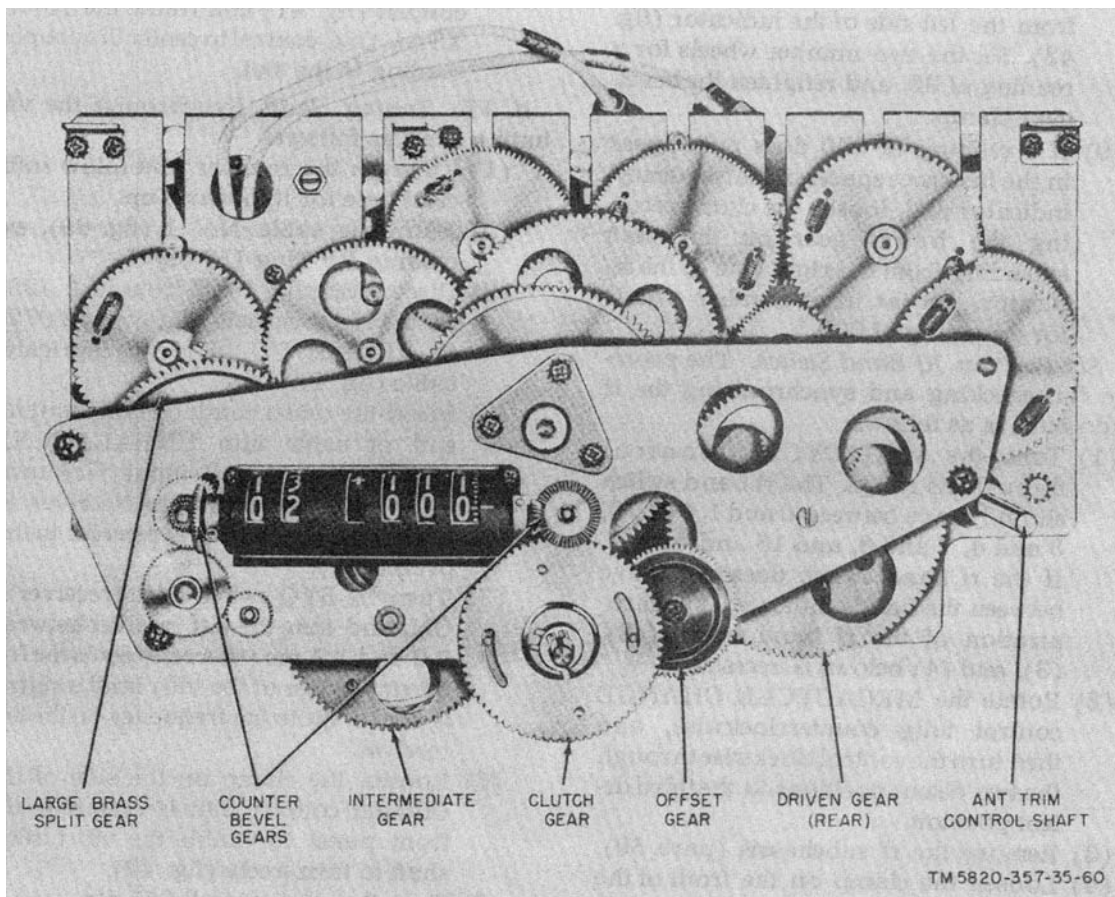
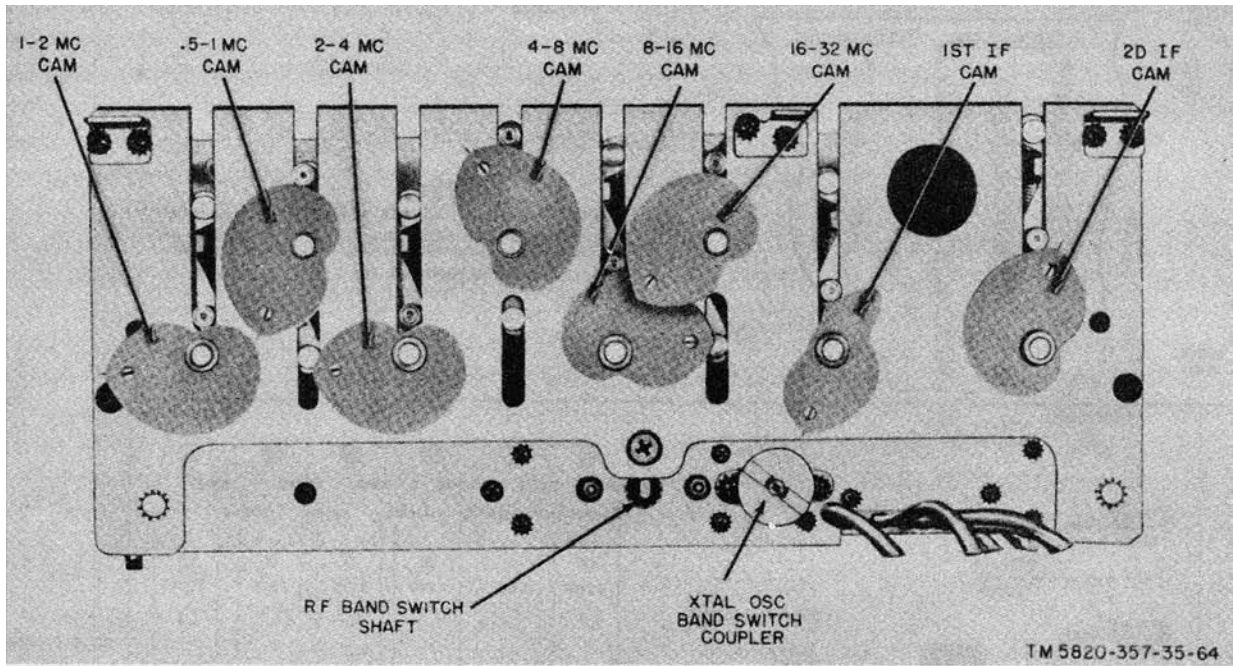

Figure 43. Location of gears.
Figure 44. Location of cams.
73. Mechanical and Electrical Synchronization (fig. 43 and 44)
a. Camshafts. The camshafts are synchronized properly if the index lines etched on the rear plate of the rf subchassis bisect the holes in each of the rear cams (fig. 44) when the frequency-indicator reading is 02 000. To synchronize the rf subchassis when it is removed from the cabinet, rotate the large brass split gear and the clutch gear (fig. 43) to positions where the frequency-indicator reading is 02 000. If the index lines do not bisect the holes, follow the procedure out-lined in (2) through (7) below. Before replacing the rf subchassis (para 5**h** above to positions where), rotate the two gears mentioned above to positions where the first two digits on the frequency indicator indicate halfway between 99 and 00, and the last three digits read -972. (Note the minus sign.) When the rf subchassis is in the cabinet, proceed as follows:
portion of the frequency indicator. If it does not agree, loosen the crystal-oscillator band switch position indicator to see that it agrees with the reading on the Oldham coupler clamp (fig.41) on the crystal oscillator and turn the SYNC XTAL OSC control on the rear panel (TM 11-5820-357-10) until the two readings agree. Tighten the clamp on the Oldham coupler. Check the synchronization of each band by noting the position of the cam rollers at the end frequencies of each band. The position of the 1- to 2-mc band cam shown in figure 44 represents the correct position for the low end of the band. The position of the second if. cam shown in figure 44 represents the correct position for the high end of the band (the last three digits of the frequency indicator should read 999). If all the cams are out of synchronization, set the 8- to 16-mc cam first.
- (2) If the 1- to 2-mc camshaft (fig. 44) is not positioned properly, loosen the clamp on the front of the shaft and rotate the rear cam until the index line bisects the hole in the cam. Tighten the clamp.
- (3) Position the camshaft for .5- to 1-mc slug rack (fig. 44), if necessary, in the same manner as described in (2) above.
- (4) Check the position of the 8-to 16-mc camshaft. If it is not aligned properly, loosen the clamp on the front of the 2- to 4-mc shaft to position the 8- to 16- mc cam, since the gear for the 8- to 16-mc shaft is pinned through the shaft. After positioning the 8-to 16-mc cam, position the 2- to 4-mc cam while holding the 8- to 16-mc cam in place; then tighten the clamp on the 2- to 4-mc shaft.
- (5) necessary, position the 4- to 8-mc and 16- to 32-mc cams (fig. 44) in the same manner as described in (2) above.
- (6) To position the first variable if. cam (fig. 44), loosen the clamp nearest the front plate of the rf subchassis on the crystal-oscillator band switch shaft. Adjust the position of the cam; then tighten the clamp.
- (7) Position second variable if. cam (fig. 44), if necessary, in the same manner as for the 1- to 2-, .5- to 1-, 4- to 8-, and 16- to 32-mc cams.
- (8) Check the reading of the frequency indicator. If a reading of 02 is not centered within the two left-hand spaces of the indicator, loosen the clamp on the bevel gear on the shaft extending from the left side of the indicator (fig. 43). Set the two number wheels for a reading of 02, and retighten the bevel-gear clamp.
- (9) If a reading of 000 does not appear in the last three spaces of the frequency-indicator dial, loosen the clamp securing the bevel gear on the shaft extending from the right side of the indicator. Set the three number wheels for a reading of 000.
contacts are centered at position 3 by inserting long-nosed pliers in the hole at the rear of the subchassis (fig. 44) and turning the shaft. Positions of the switch contacts are shown in the schematic diagram (fig. 74). Tighten the clamp after adjustment.